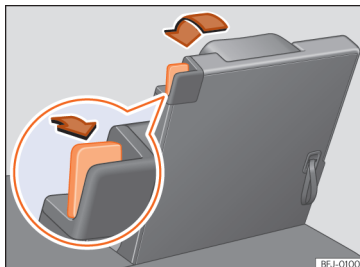

Fig. 157 Third row of seats: place the seat in loading floor position.
- Pull the unlocking lever »» Fig. 157 to its rearmost position to unlock the seat backrest.
- Pull the cord on the backrest of the seat »» Fig. 157 to lift the backrest. **OR:** lift the backrest with your hand from the cabin.
- The red marking on the unlock lever »» Fig. 157 must not be seen.
- A red mark on unlock lever »» Fig. 157 indicates that the seat backrest is not engaged. If the back rest is locked correctly, the mark is not visible.